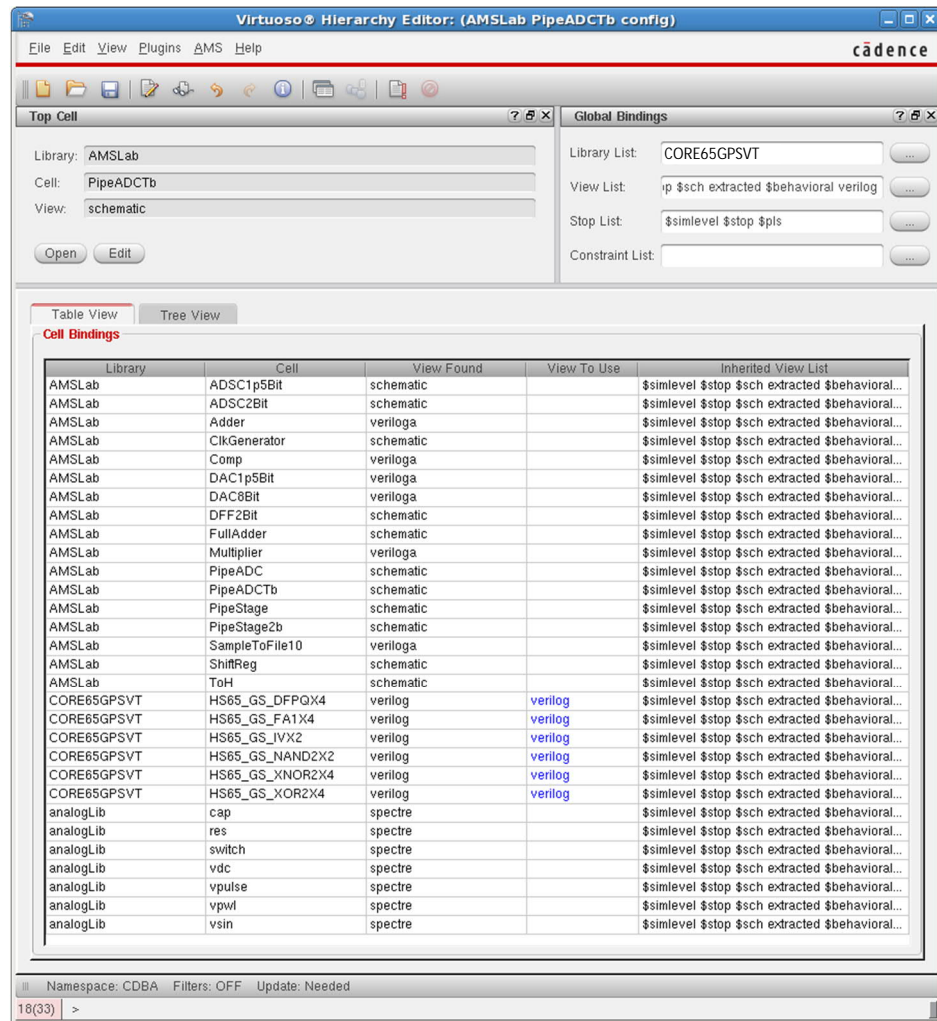

Figure 16. PipeADCTb config setup.
- c. Repeat steps #5.e to #5.l of the previous simulation. The **config** view should be similar to the one in Figure 16.